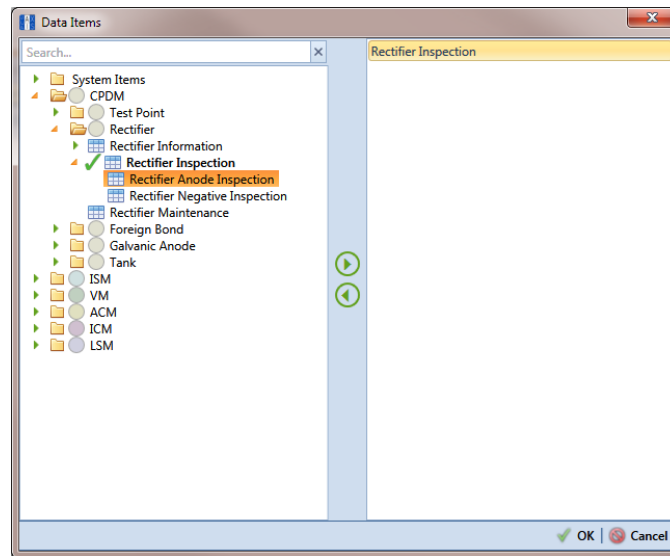

Figure 10-7. Data Items
- 8 Choose the data item(s) you want to import in PCS Axis. Click  **Add Data Item** to open the *Data Items* window and then complete the following steps (Figure 10-7):
- a Open the folder(s) containing the data item(s) you want to import. Repeat this step as needed for other folders. For example, the folders *CPDM* and *Rectifier* are selected in the following figure (Figure 10-7).
- 8 Select the PCS Axis data item used to import SDL survey files. Click  **Add Data Item** to open the *Data Items* window and then complete the following steps (Figure 10-7):